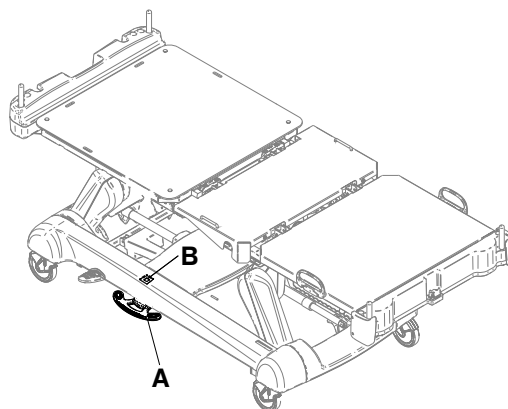

Figure 7: Brake pedal window
2. Fully depress the brake pedal (A) until **Brake** appears in the brake pedal window (B) (Figure 7 on page 24).
To release the manual brakes, depress the pedal until **Neutral** or **Drive** appears in the brake pedal window (B) (Figure 7 on page 24).